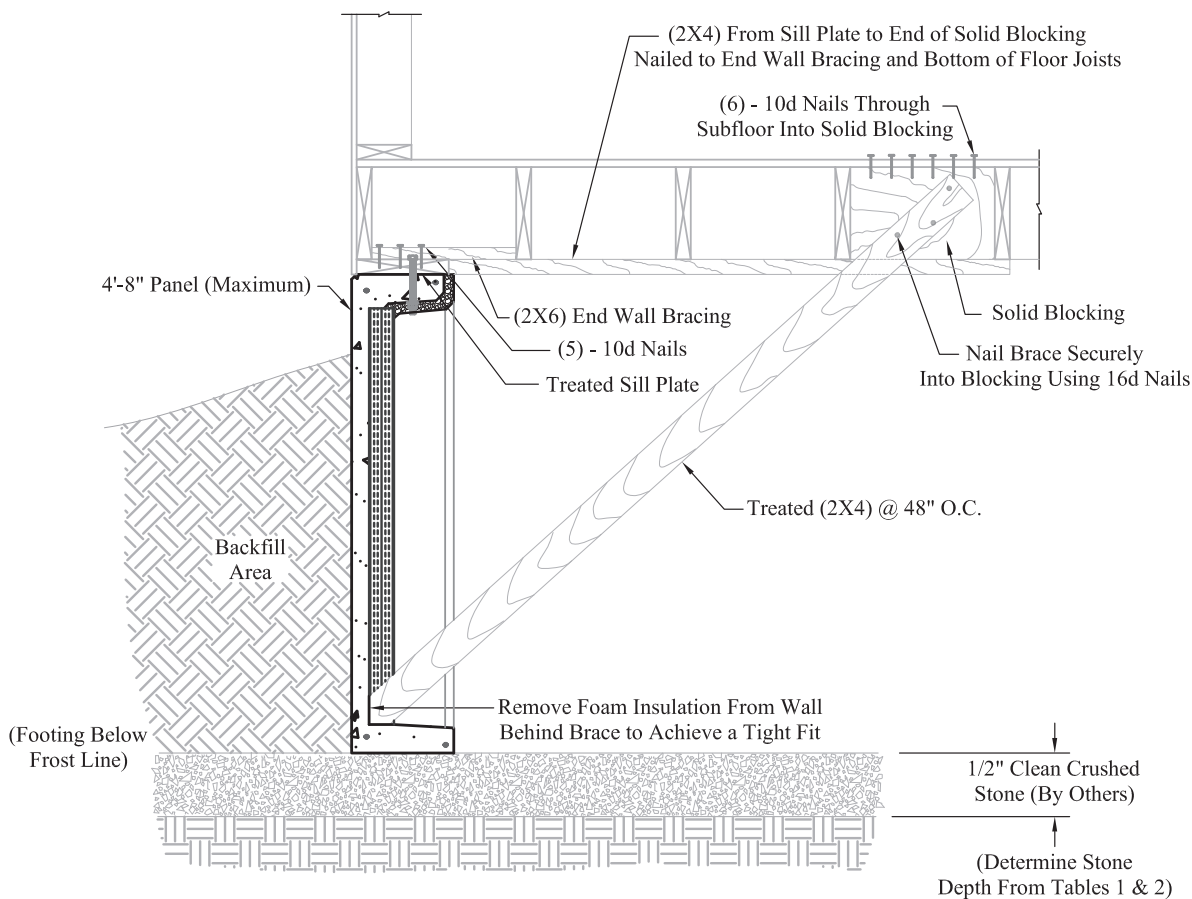

Figure 14
- Wood Bracing for Joists parallel to Superior Walls panels is shown in Figure 14.